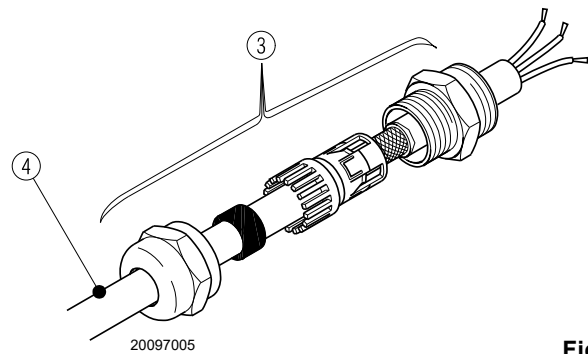

Fig. 34
- Shield the cable 4) running from the VSD (inverter), as shown in Fig. 34 and using the coupling 3);